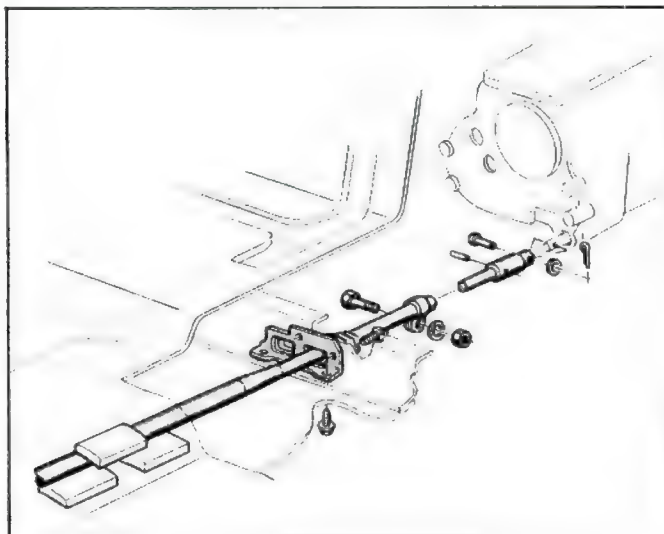

Fig. 7A-3—Control Rod & Linkage
2. Slide bracket and bushing assembly (fig. 7A-2) off control shaft.